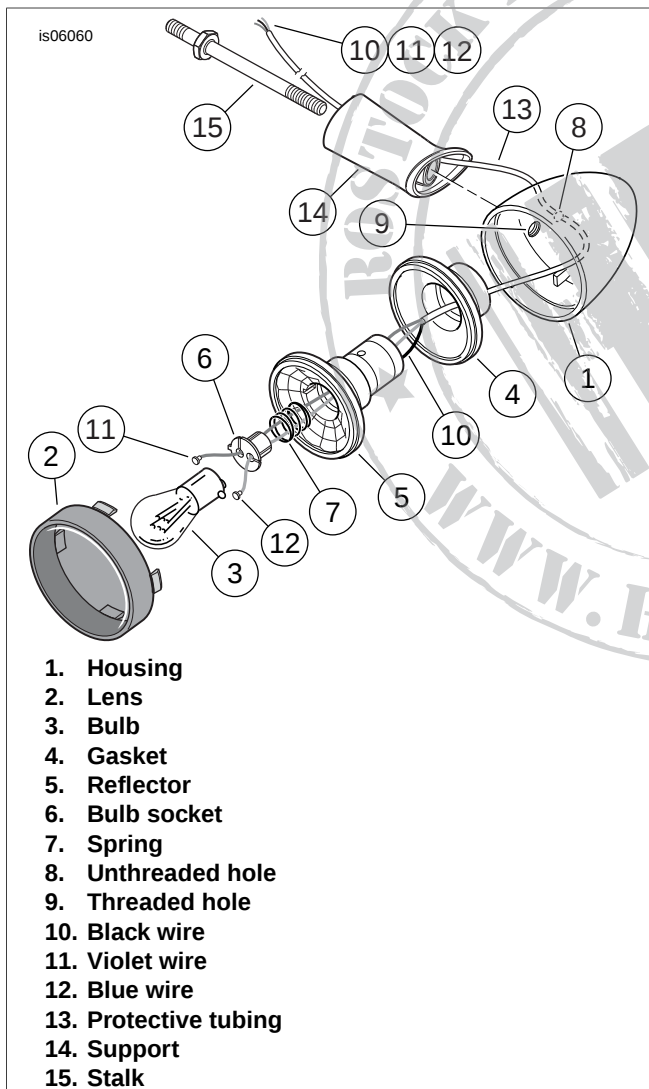

Figure 1. Tail/Stop/Turn Signal Lamp
2. See Figure 1. Unscrew and remove the turn signal stalk (15) from one of the turn signal lamps, and discard. Remove and **retain** the turn signal lamp and support (14) from the rear fender support cover.
3. Insert the blade of a small screwdriver into the slot at the bottom of the turn signal lamp lens (2), and twist to unsnap the lens from the housing (1).
7. See Figure 1. Route the wires (10, 11, 12) and protective tubing (13) from the reflector/bulb socket assembly through the center of the rubber gasket (4) and out through the **unthreaded** hole (8) in the lamp housing (1).